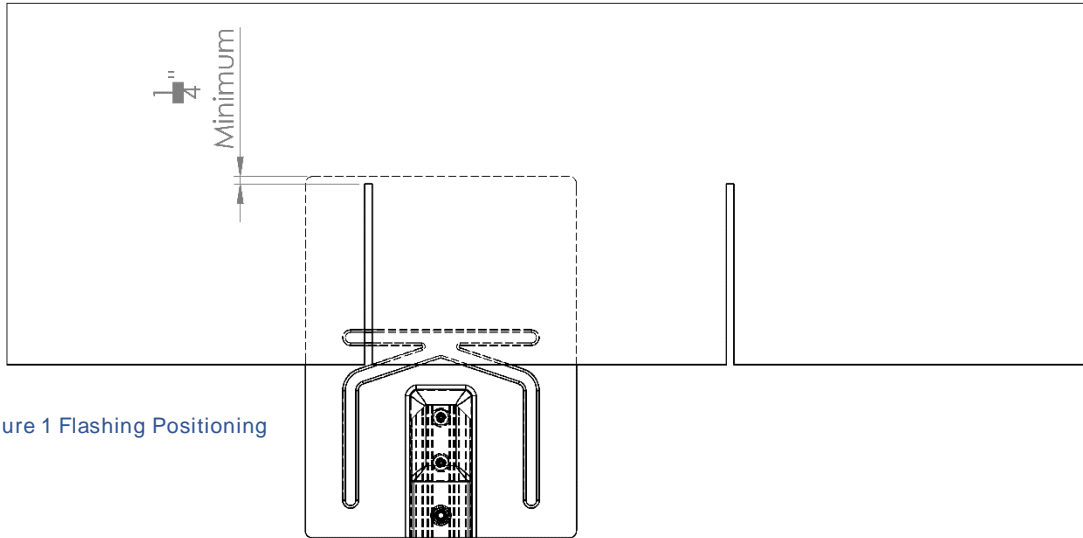

Figure 1 Flashing Positioning
1. Measure and mark the appropriate bracket locations. Use a measuring tape to ensure chalk lines are straight and square. When marking, take care to ensure that the top of the flashing is at least $\frac{1}{4}$ " above the top of the slit in the shingle (Figure 1 Flashing Positioning)